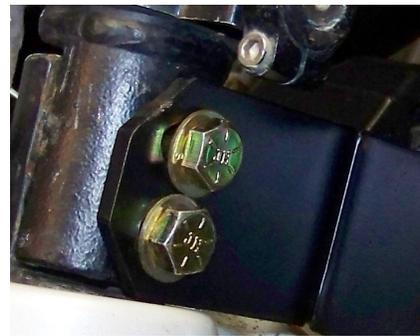

Figure 9: Door Frame Attached to Roll Cage
- Pick up the doors and carefully fit them into place on the RZR. Note that the hole in the rear door mount bracket should line up with the hole for the "B" pillar bolt and locknut you removed. The front mounting bracket goes on the outside of the roll cage stub coming up out of the dashboard (*see figure 9*).